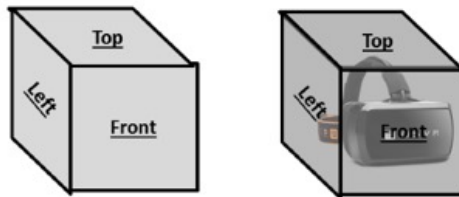

Figure 2: Headset Cube Face Visualization
- a. Imagine that the device is a standard cube with 6 faces (Front, Back, Left, Right, Top, Bottom). See Figure 2 for visualization.